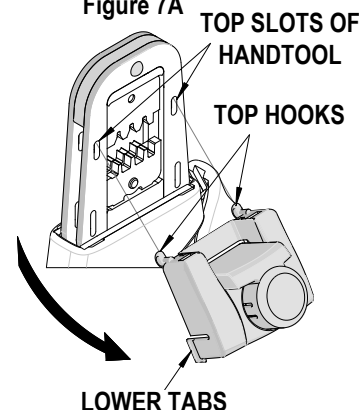

Figure 7B
- Press the red insert down as far as it will go as shown in Figure 7B.
- Holding onto the lower part of the locator with your thumb and index finger, insert the locator's top hooks (2) into the hand tool's top slots.